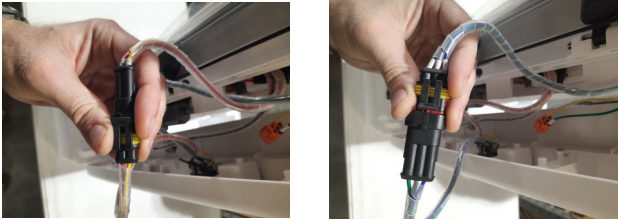

Figure 9
11. Plug in the two switch connectors (the 2 pin and 3 pin weather pack connectors) as shown in *Figure 9*.